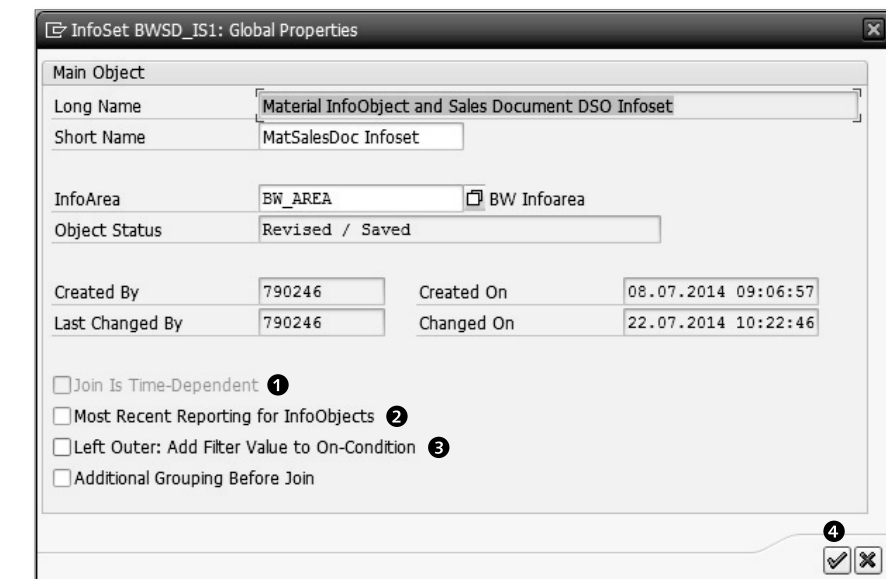

Figure 6.36 InfoSet Global Properties
A few properties are known as global properties for an InfoSet that can be accessed using the menu path GoTo • GLOBAL PROPERTIES. The INFOSET BWSD_IS1: GLOBAL PROPERTIES box appears, as shown in Figure 6.36. All four available settings are explained in this section.
This setting is display only (❶ of Figure 6.36). If any of the underlying InfoProviders included in the definition of the InfoSet is an InfoObject with a time-dependent attribute, this checkbox is checked, and the join created is known as a *time-dependent join*. In our example InfoSet, we've included InfoObject OMATERIAL, but OMATERIAL doesn't have any attributes that are time dependent, so this checkbox isn't available.
When you have a scenario where master data is loaded a number of times in SAP BW, there may be a delay in activating the newly loaded master data. However, using the settings available for InfoSets, you *can* report on this data, even if it isn't activated. To make this happen, check the MOST RECENT REPORTING FOR INFOOBJECTS setting, as shown in ❷ of Figure 6.36.
This indicator (❸ of Figure 6.36) is useful if you've used a *left outer join* when defining the join in the InfoSet. It's used to control how a condition on a field of the left outer table is converted into a SQL statement while the query based on this InfoSet is executed. When the indicator is set, the condition is evaluated before the join. When the indicator isn't set, the condition is evaluated after the join.